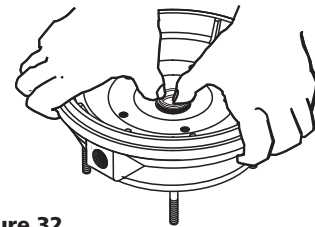

Figure 32
- Put clean cardboard washer on seal face. With thumb pressure, press ceramic seal half firmly and squarely into seal cavity in seal plate (See Figure 32). Polished face of ceramic seat is up. If seal will not seat correctly, remove, placing seal **face up** on bench. Reclean cavity. Seal should now seat correctly.